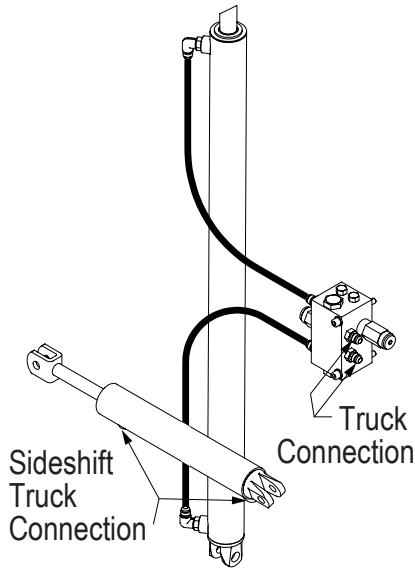

Figure 4-5, Hydraulic Connection, Sideshifter Connection Shown
3. Install the lines from the truck's hydraulics to the hydraulics of the attachment. (Figure 4-5)
2. Disconnect the hydraulic connection for the attachment positioning at the hydraulic valve. (Figure 4-5)